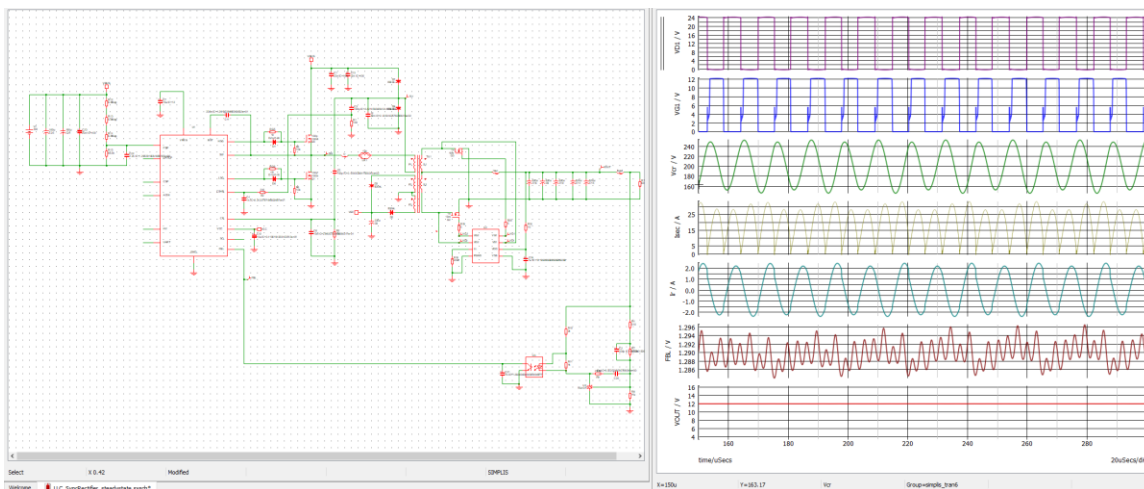

Figure 36: LLC Controller with Synchronous Rectification
Figure 36 shows an LLC converter with a CC-CV control power supply solution to ensure the target output works properly. Instead of diodes, synchronous rectification (SR) is used to reduce the voltage drop.
The simulation takes about 5 minutes while running the combination simulation with the proper settings. Users can observe the steady-state waveform (see Figure 36).